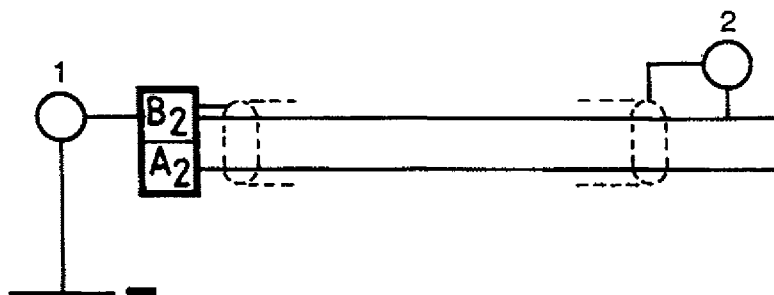

Fig. 14AA
- b) Connect the other side of the screen to the negative line via the test instrument. The test instrument must indicate the connection. (See Fig. 14AA).
(Fig. 14AA)